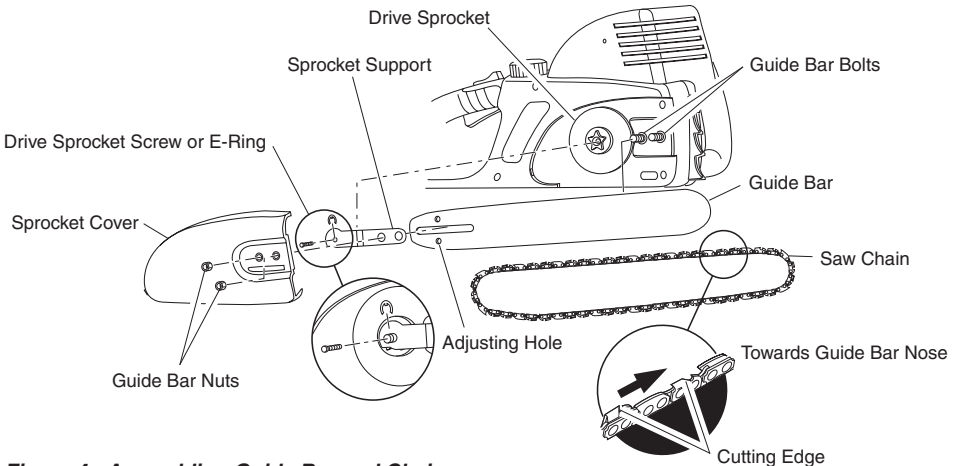
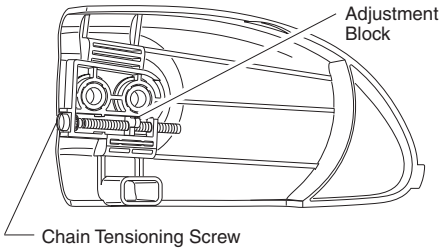

Figure 4 - Assembling Guide Bar and Chain
Figure 5-Turn Chain Tensioning Screw on Model 107624-01, -02
3. Loosen and remove drive sprocket screw or remove E-ring from shaft (see Figure 4). Remove sprocket support.
6. Place chain around drive sprocket, along top groove of guide bar, and around guide bar nose. *Note:* Make sure cutting edges of chain are facing in right direction. Position chain so cutting edges on top of guide bar face guide bar nose (see Figure 4, and indicator on side cover of saw).
9. Turning chain tensioning knob (Model 107625-01, -02, 111174-01) or chain tensioning screw (Model 107624-01, -02), adjust position of adjustment block until it is aligned and inserted into the round adjusting hole on guide bar (see Figure 4 and Figures 5 and 6, page 8). Turning chain tensioning knob or chain tensioning screw counterclockwise will move adjustment block to rear of guide bar. Turning chain tensioning knob or chain tensioning screw clockwise will move adjustment block to front of guide bar.